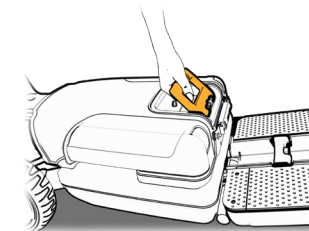

Figure 40
4. Push the back of the chair forwards until it clicks (see Figure 40).